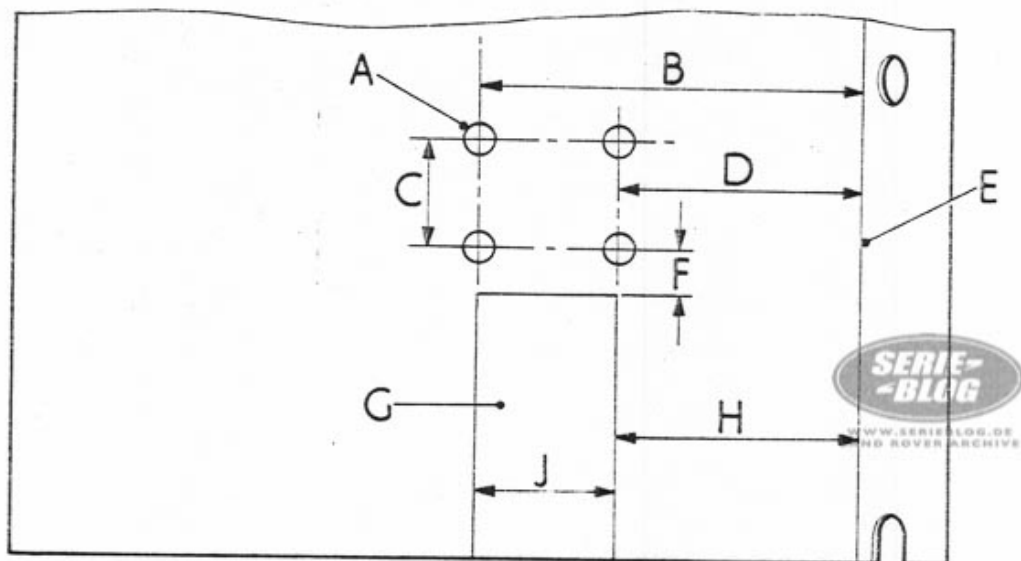

Fig.3. L.H. baffle plate, drilling and cut-out details.
8. Mark off the L.H. baffle plate as illustrated in Fig.3, and drill four holes 0.281 in (7,1 mm) diameter for the cooler bracket fixings.
9. Mark off the L.H. baffle plate, as illustrated in Fig.3, and cut out the panel for oil pipe access to the cooler.